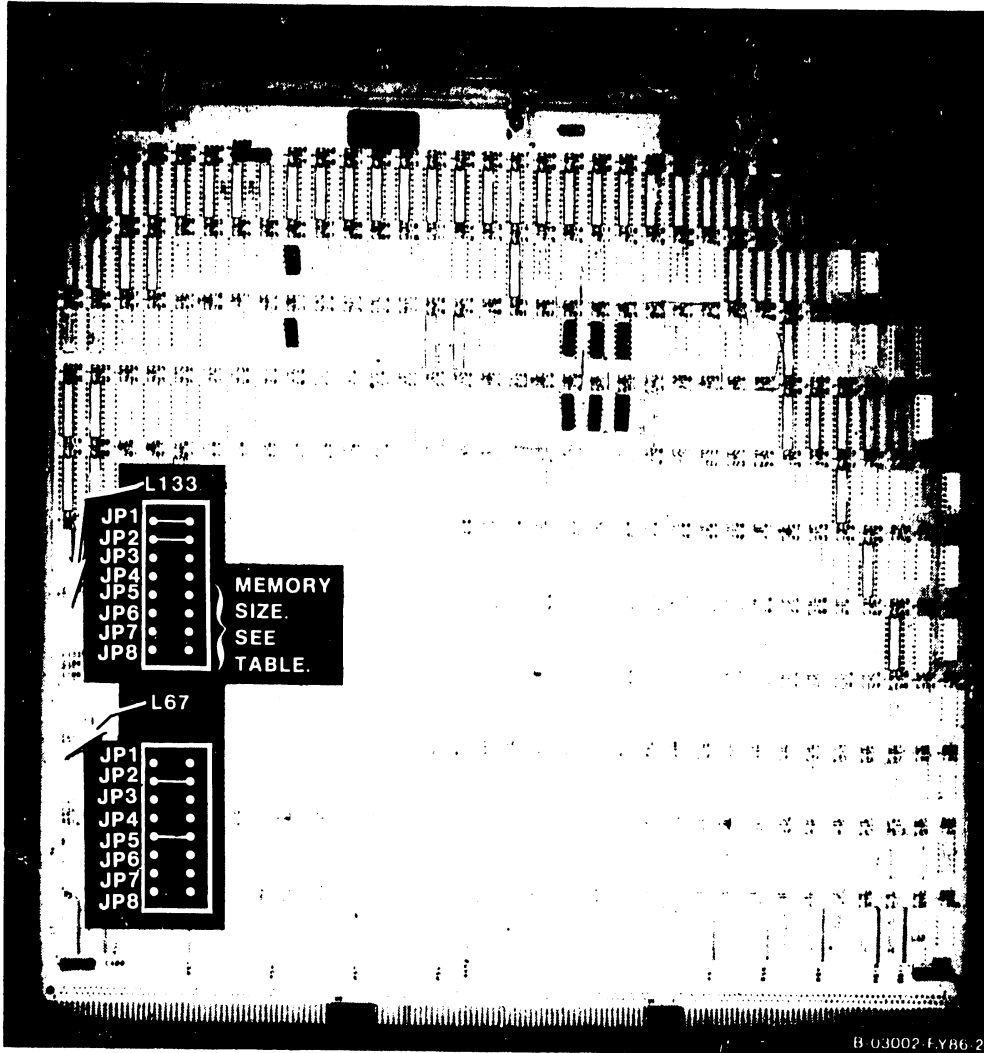

Figure 7-14. 210-9834 Memory Control Unit
1. Remove the Memory Control Unit (MCU) (figure 7-14) from backplane slot #6 in the manner described in 7.2.4.1. No cables are on the MCU.
2. After checking the MCU System Address ID jumpers at L67, MCU Support Packet Bus ID jumpers at L133, and Main Memory Size Selection jumpers at L133 (figure 7-14 and table 7-1), install the new MCU.